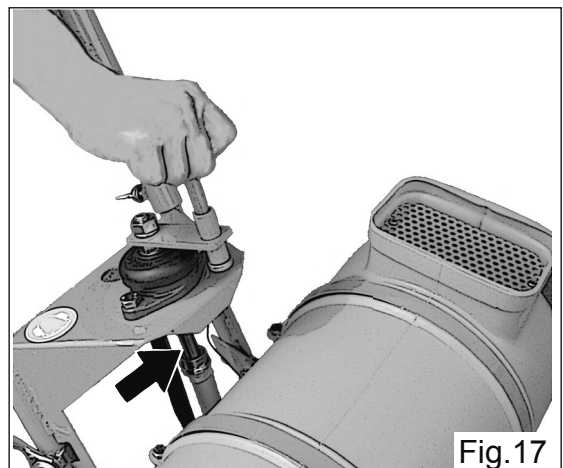

Fig.17
2. Apply grease to pillow block, lift handle base and slider base through grease nipple. Particularly, pillow block of the blade shaft should be well greased a few times by means of grease gun after work. Be sure to grease the thread portion of lifting screw as well (Fig.17 and 18).